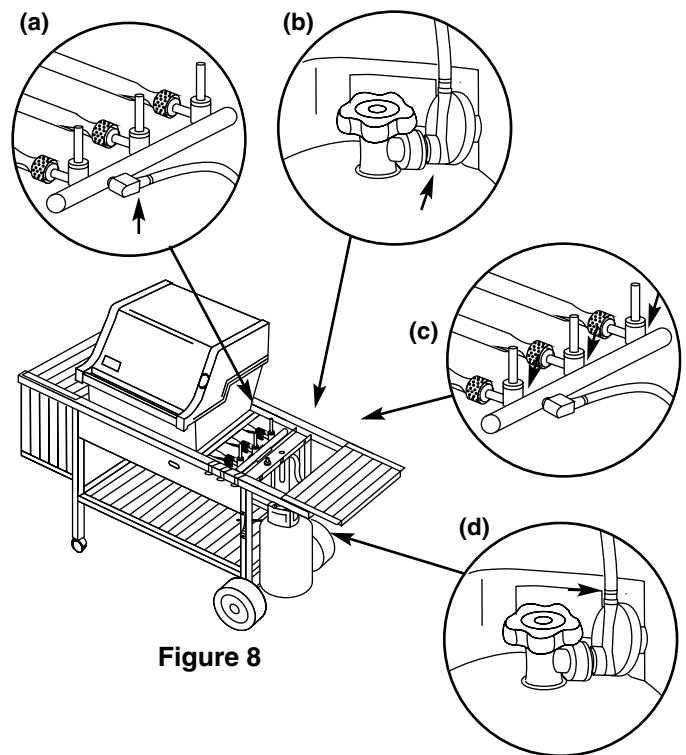

Figure 8
- a) Hose to manifold connections. Figure 8 (a).
- b) Regulator to tank connection. Figure 8 (b).
- c) Valves to manifold connection. Figure 8 (c).
- d) Hose to regulator connection. Figure 8 (d).